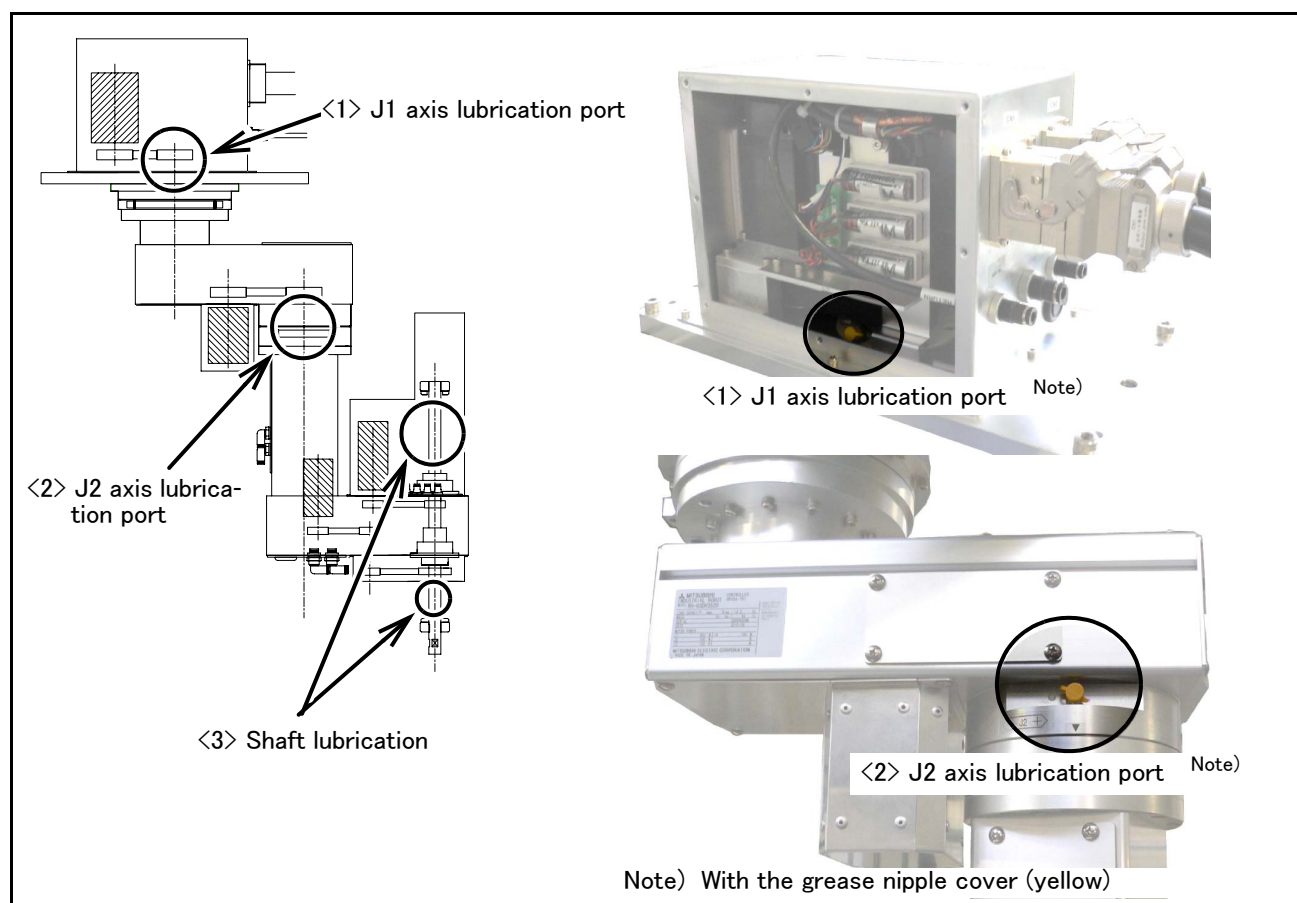

Fig.5-9 : Lubrication positions
The grease nipple position is shown in Fig. 5-9. The lubrication specifications for each place are shown in Table 5-4. When lubricating, remove the covers that need to be taken off by refer to "Fig.5-3 : Installing/removing the cover".
- The numbers in the Table 5-4 correspond to the supply positions in Fig. 5-9.
(2) Lubrication method
- 1) The positions of lubrication ports are shown in the Fig. 5-9. Move the robot to the posture in which it can supply the grease easy.